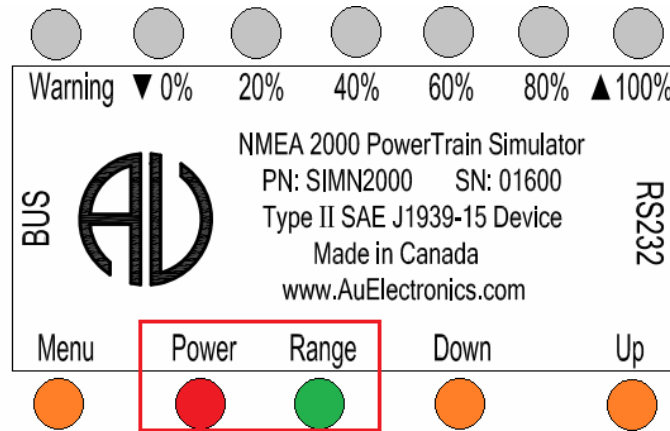

Figure 3-2 Power on, both Power and Range LED lit
- When power on, both **Power** LED and **Range** LED lit, as shown in Figure 3-2.